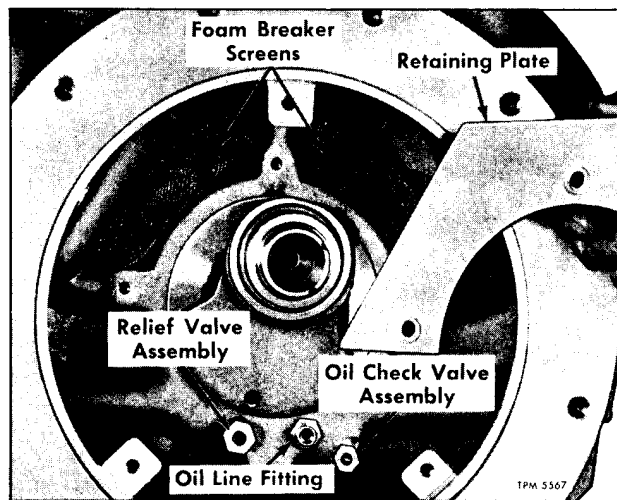

Figure 51—Foam Breaker, Screens, and Valves Installed
Two foam breaker screens are located in compressor cavities as shown in figure 51.
1. Relief valve, oil line fitting, and oil check valve are located at rear of compressor as shown in figure 51. Remove these units from compressor housing.
2. Gas check valve assembly (6) is located in the suction cavity of compressor housing as shown. Using a short handle wrench, remove valve.
1. Install gas check valve assembly (15) into compressor housing. Tighten valve firmly.
2. Install relief valve, oil line fitting, and check valve into rear of compressor as shown in figure 51. Tighten units firmly.
2. Install foam breaker retaining plate (7) with three screws and lock washers. See figure 51.